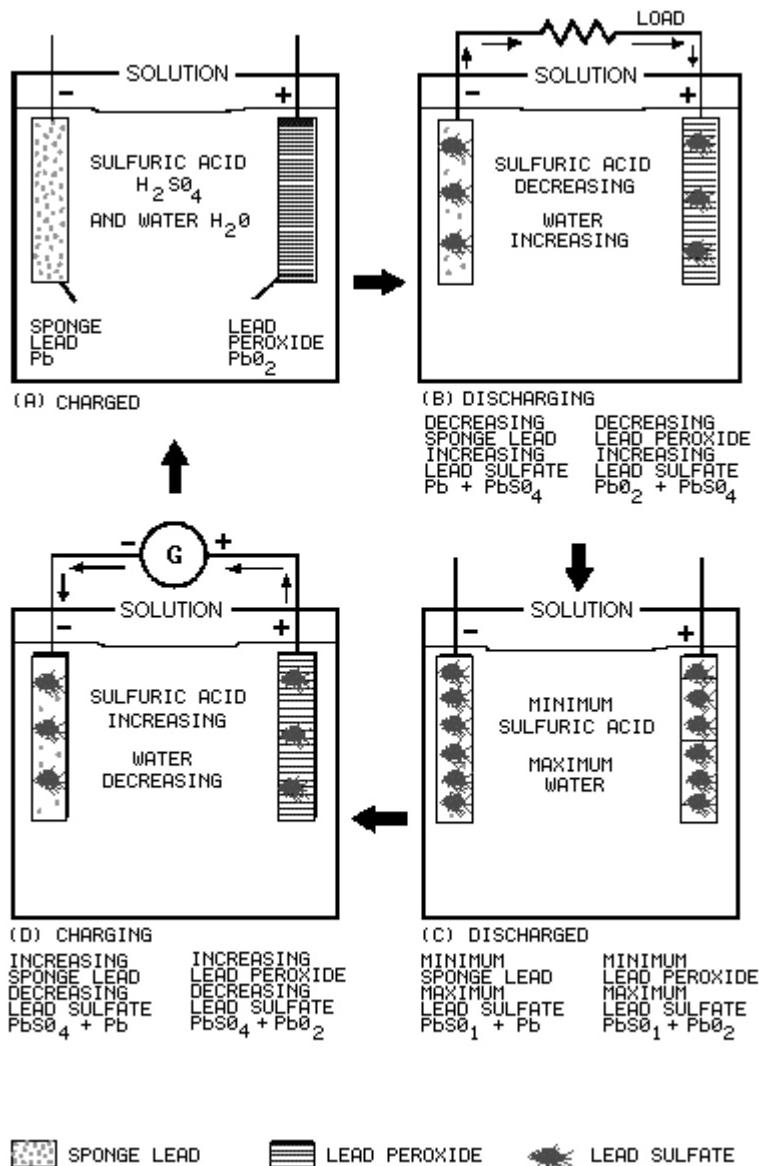

Figure 2-3.—Secondary cell.
As stated before, the differences between primary and secondary cells are, the secondary cell can be recharged and the electrodes are made of different materials. The secondary cell shown in figure 2-3 uses sponge lead as the cathode and lead peroxide as the anode. This is the lead-acid type cell and will be used to explain the general chemistry of the secondary cell. Later in the chapter when other types of secondary cells are discussed, you will see that the materials which make up the parts of a cell are different, but that the chemical action is essentially the same.
Figure 2-3 view A shows a lead-acid secondary cell that is fully charged. The cathode is pure sponge lead, the anode is pure lead peroxide, and the electrolyte is a mixture of sulfuric acid and water.
Figure 2-3 view B shows the secondary cell discharging. A load is connected between the cathode and anode; current flows negative to positive as shown. This current flow creates the same process as was explained for the primary cell with the following exceptions.
When the cell is fully discharged it will be as shown in figure 2-3 view C. The anode and cathode retain some lead peroxide and sponge lead but the amounts of lead sulfate in each is maximum. The electrolyte has a minimum amount of sulfuric acid. With this condition no further chemical action can take place within the cell.
As you know, the secondary cell can be recharged. Recharging is the process of reversing the chemical action that occurs as the cell discharges. To recharge the cell, a voltage source, such as a generator, is connected as shown in figure 2-3 view D. The negative terminal of the voltage source is connected to the cathode of the cell and the positive terminal of the voltage source is connected to the anode of the cell. With this arrangement the lead sulfate is chemically changed back to sponge lead in the cathode, lead peroxide in the anode, and sulfuric acid in the electrolyte. After all the lead sulfate is chemically changed, the cell is fully charged as shown in figure 2-3 view A. Once the cell has been charged, the discharge-charge cycle may be repeated.
- Q11. Refer to figure 2-3(B). Why is the sulfuric acid decreasing?*
- Q12. Refer to figure 2-3(D). How is it possible for the sulfuric acid to be increasing?*
- Q13. Refer to figure 2-3(D). When all the lead sulfate has been converted, what is the condition of the cell?*